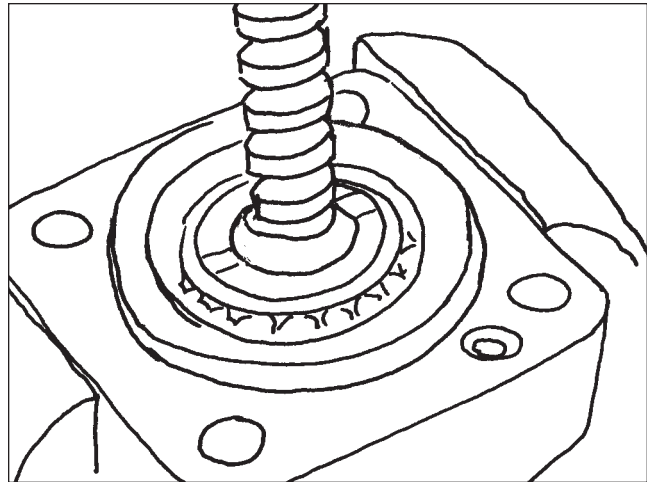

Figure 63
3. Use a vise to hold the bearing cap assembly in position with the rotary valve shaft sticking straight (**Figure 63**).